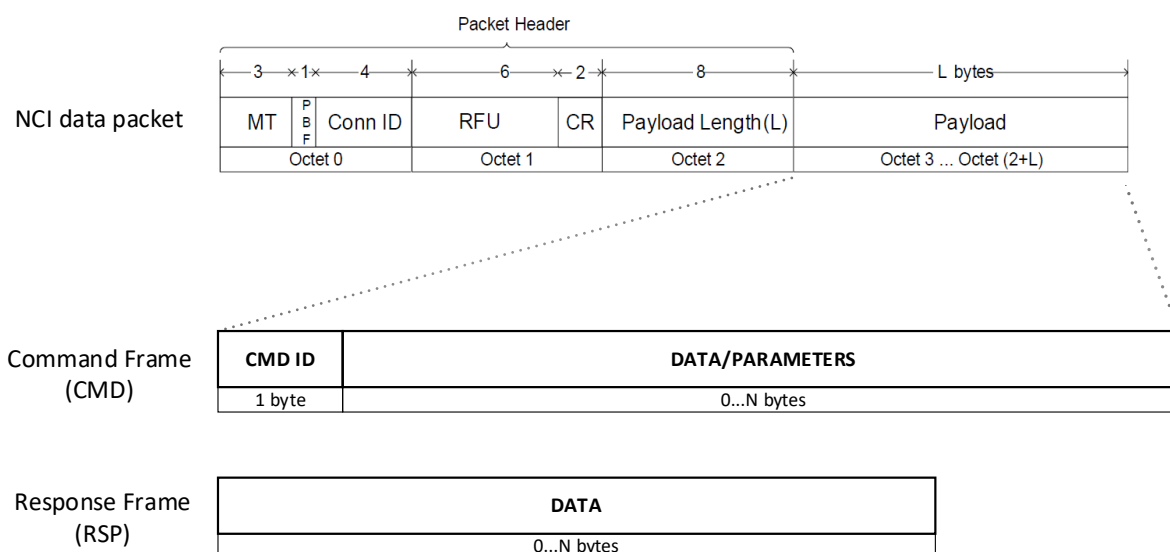

Figure 7. ExtMode RF Interface Data Messages Structure
**ExtMode** uses the same data mapping as Frame RF Interface in [2]. However, data messages payload has specific, custom defined structure. All the functionality is provided/executed by using NCI data packets, with the payload containing MFC commands or responses, as shown in Figure 7.